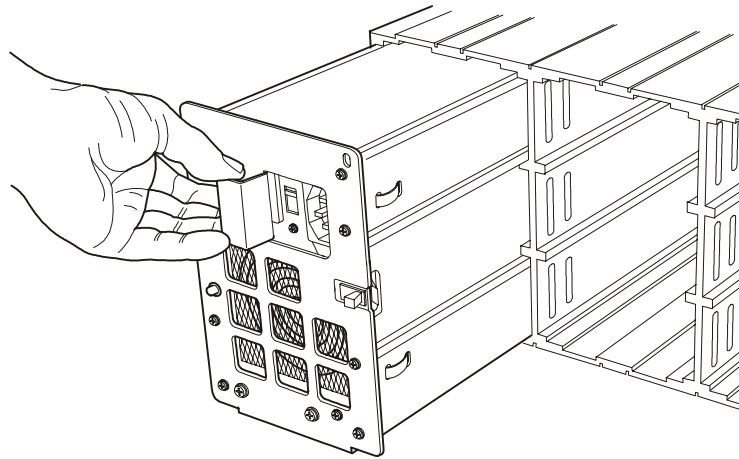

Figure 4–2 Removing a power supply/Cooling module
- 5 Grip the metal flange on the power supply unit front panel firmly between finger and thumb and slide the unit out of the Enclosure bay (Figure 4–2).